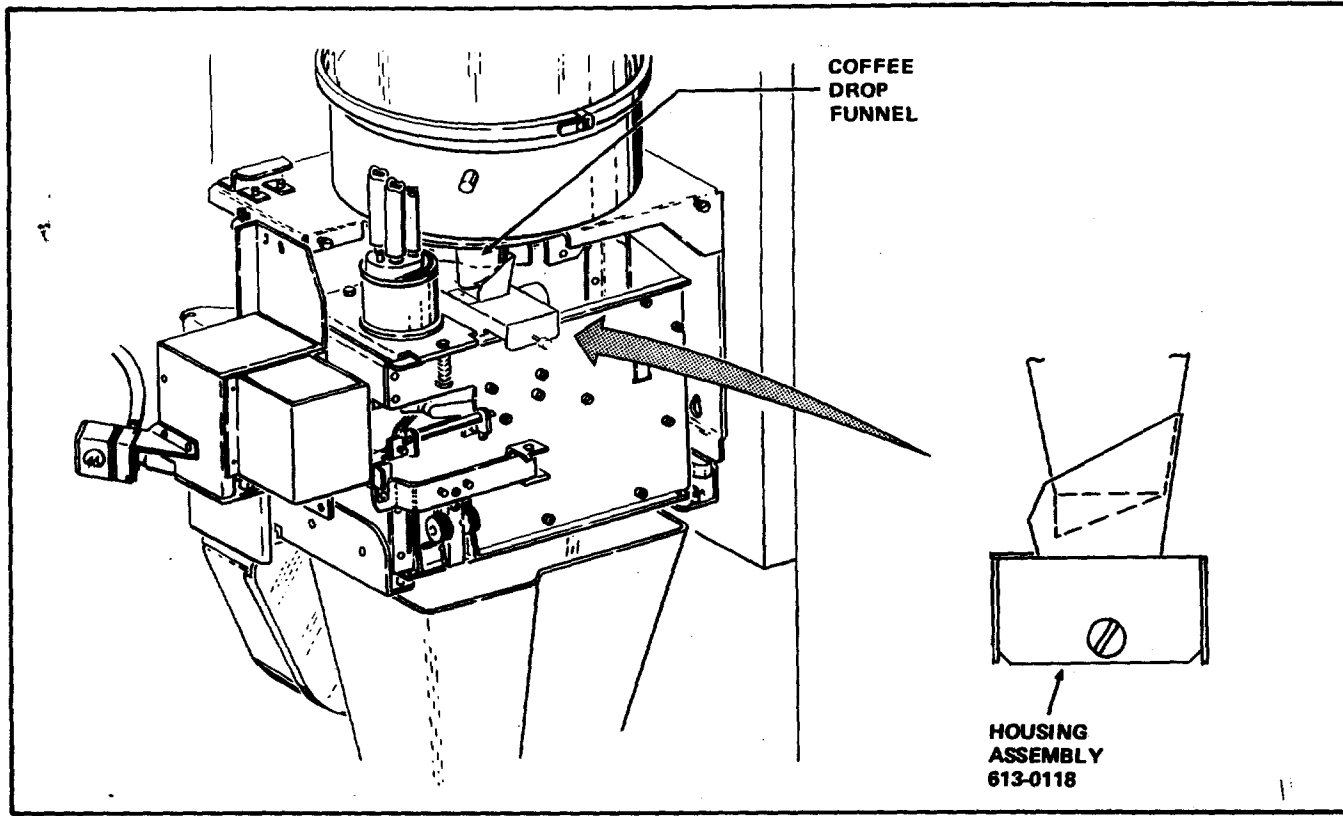

FIGURE 11
7. Install the Housing Assembly, Part Number 613-0118, included in the Kit, on top of the Coffee Brewer Assembly. Slide the Housing Assembly to the left until the Funnel on the Housing Assembly is in contact with the Coffee Drop Funnel on the Mounting Bracket Assembly. Secure the Housing Assembly by tightening the Thumb Screw. See Figure 11.